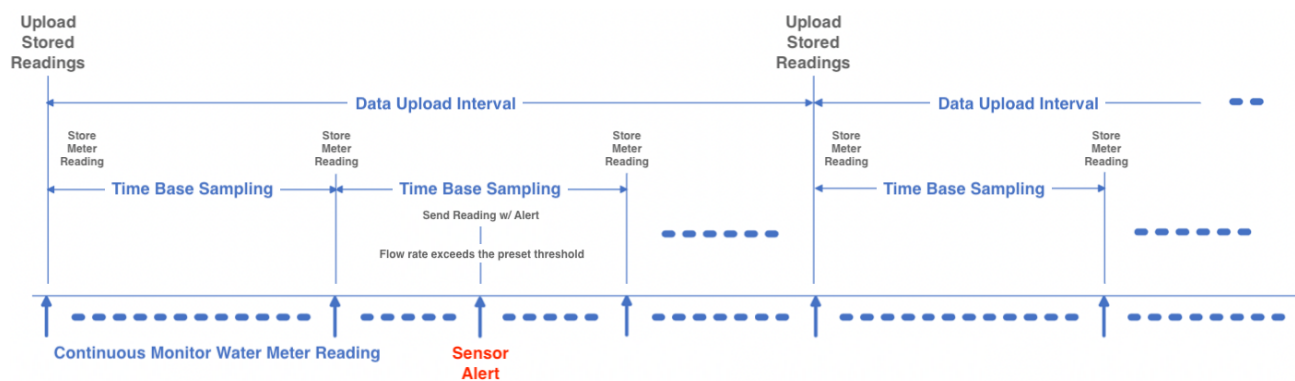

Figure 5. Time Base Upload
- Refer to Figure 5, if *Time Base Upload* is selected (*Time/Volume Based Upload* = 0), the MIU stores the water meter readings when *Time Base Sampling Interval* is reached.